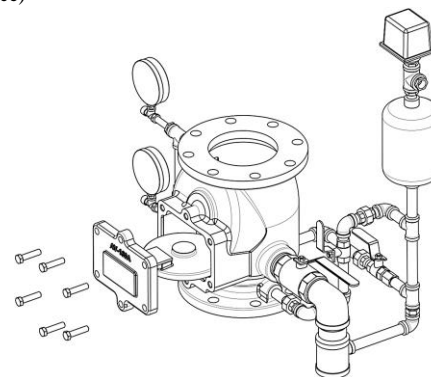

Figure 9 Removal of Cover/Clapper assembly
4. Loosen the cover bolts using appropriate wrench and remove the Cover/Clapper assembly as shown in Figure 9.